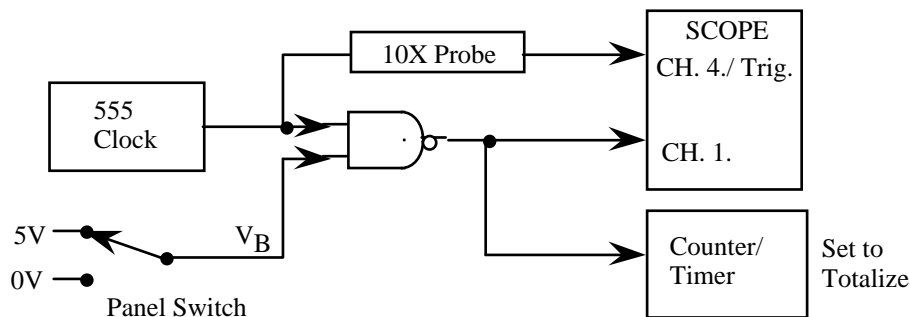

Fig. 9.10. Digital clock and stop-watch.
- Make an electronic stopwatch, using the counter / timer to count clock pulses and the panel switch for start and stop (Fig. 9.10).